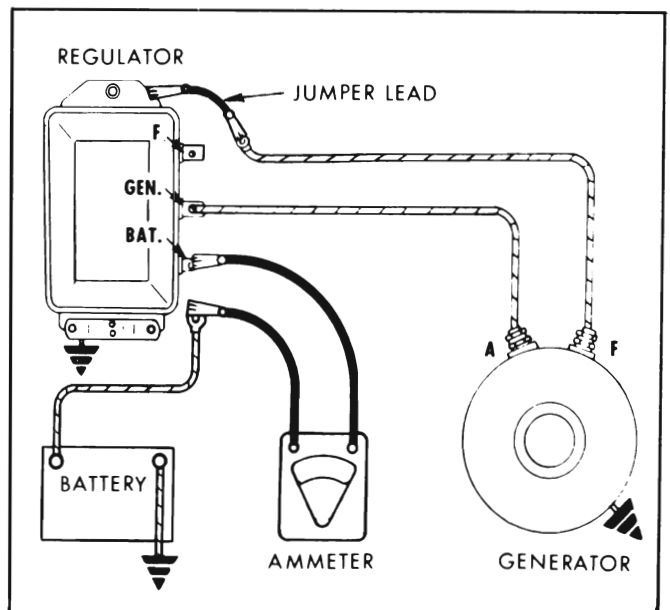

Figure 10-12—Testing Generator Output
2. Disconnect field lead from generator regulator "F" terminal and connect a jumper between this lead and ground. See Figure 10-12.
3. Disconnect battery lead from fuse at regulator "Bat" terminal. Connect test ammeter red lead to "Bat" terminal and ammeter black lead to batter lead. See Figure 10-12.